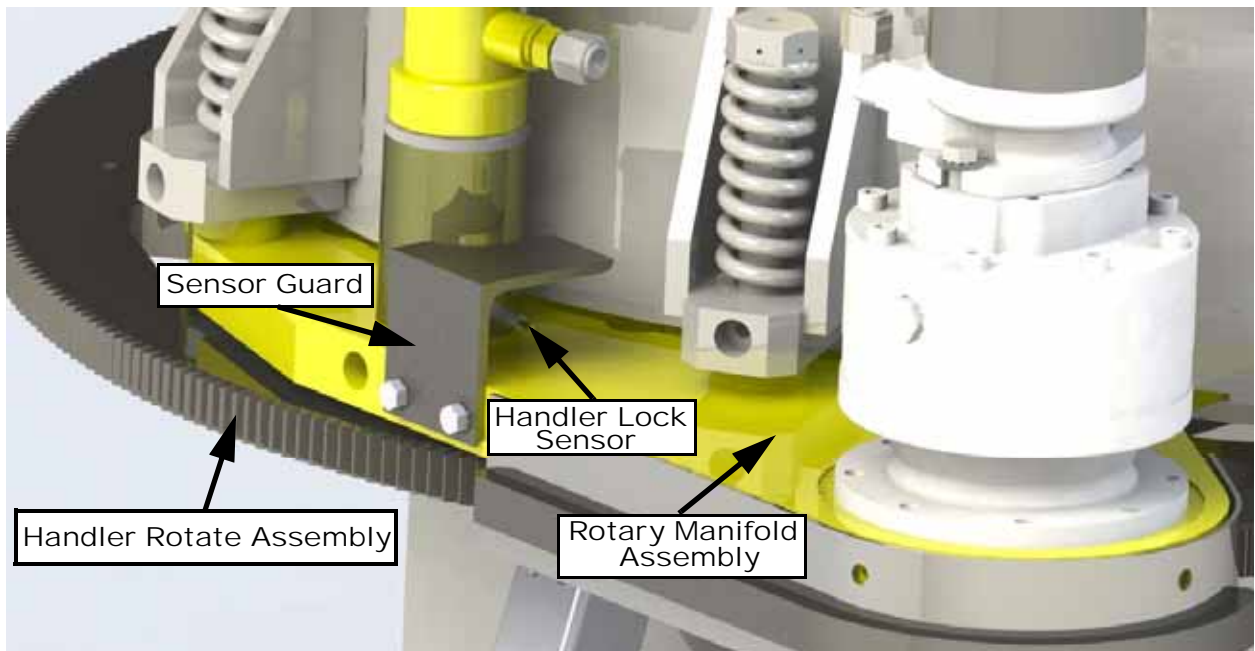

Figure 1: Remove Handler Lock Sensor Guard.
1. Remove the handler lock sensor guard (see Figure 1).